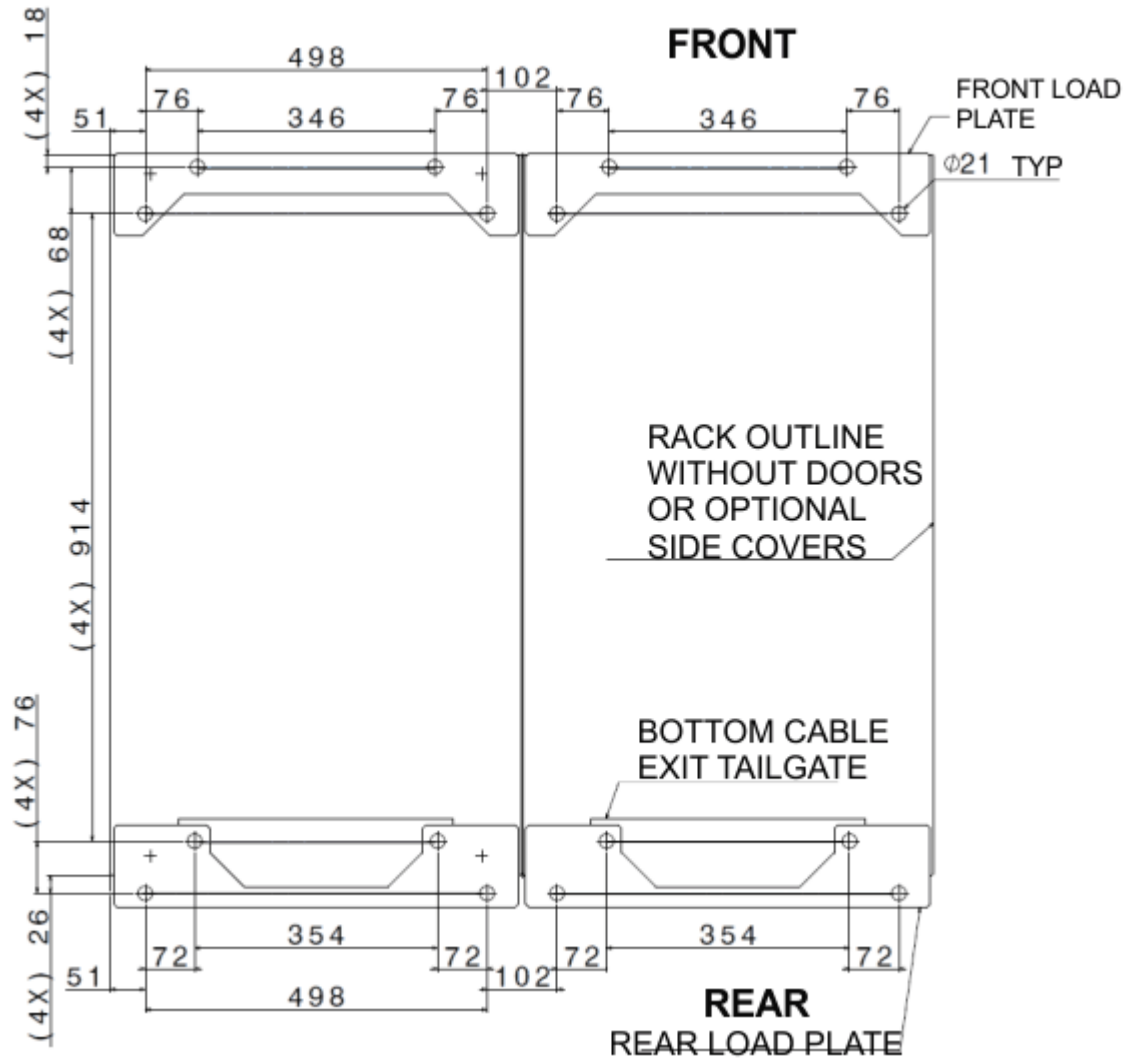

Figure 21. Location for fastener installation (nonraised floor)
- Use Figure 21 on page 128 to determine the placement of the loadplate fasteners (four per loadplate). The pattern repeats for each frame. Dimensions are in millimeters (mm).